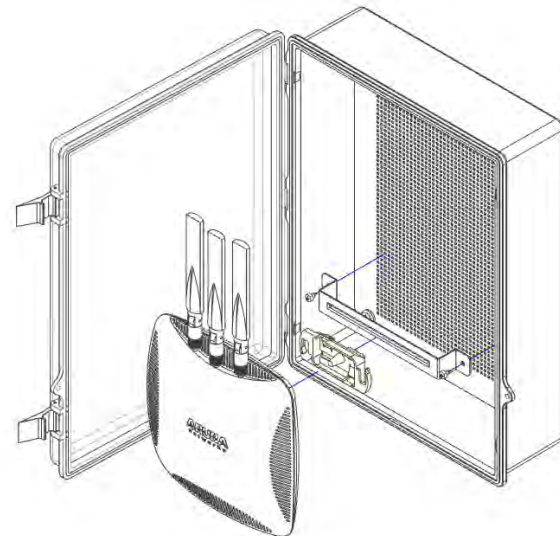

Figure 3
Step 2b – If required, the assembly includes a T-Bar Bracket that fastens to the internal panel so any Access Point can be mounted (Figure 3). A spacer kit is included to raise the height of the T-Bar if extra space is required.